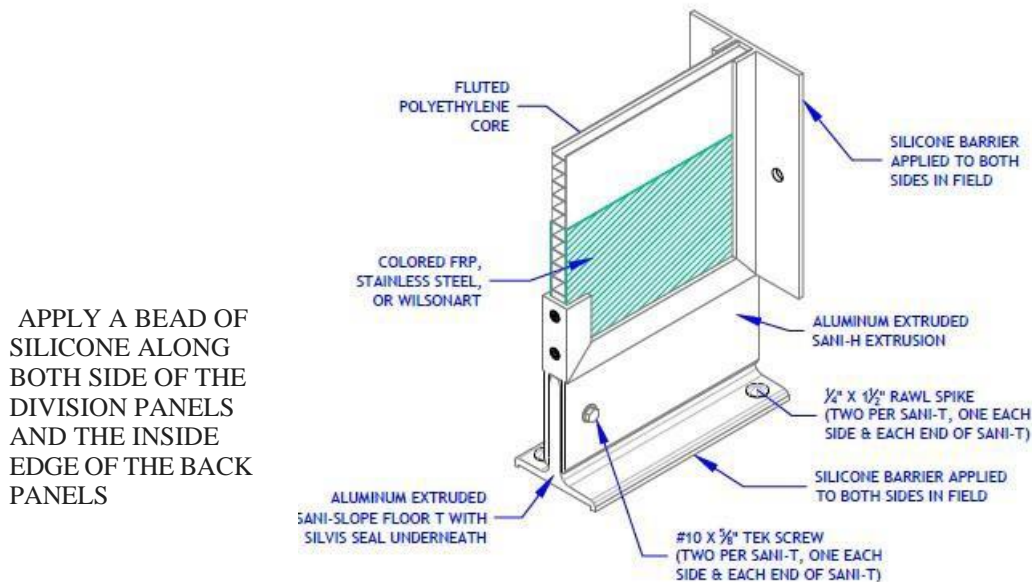

Figure 15
3. Repeat steps F-1 and F-3 for all hole locations shown in Figure 15.
2. Apply a thin bead of sealant provided along the seam created between the panels and the concrete as shown in Figure 15.